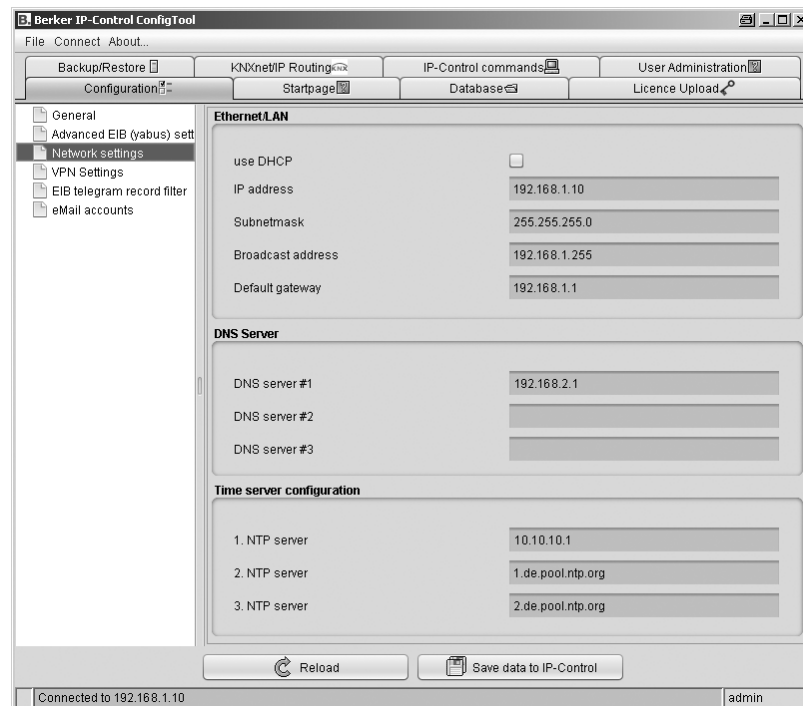

Figure 5: Network settings window
- A window is displayed showing the current settings (figure 5).